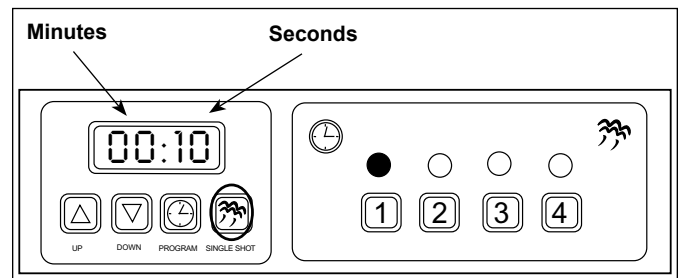

Figure 7. Programming Mode **SINGLE SHOT** Button Used for Saving All Changed Settings.
NOTE: During preheating, the display will flash "LOW". When unit reaches operating temperature, the display shows the factory pre programmed (default) time in minutes/seconds (Figure 7) and the active channel indicator light will be on.
3. Press the **UP** or **DOWN ARROW** buttons to change the total cycle time in minutes (Figure 7).